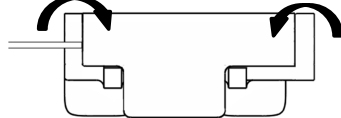

Figure 5. Block Closed to Complete Connection
4. Close the connection block using the flange handles to secure the electrode into the block. See **Figure 5**. At no time should the tail end contacts be exposed or unprotected.